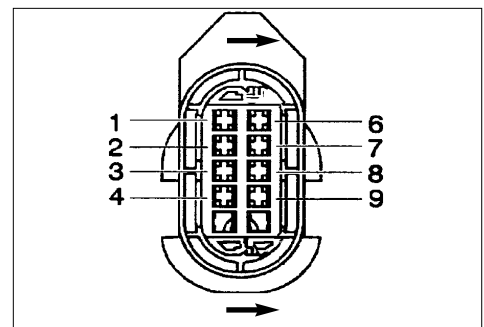

Figure 7
5.3 - Slide the red cams of the connector lock (Figure 7, Arrows), one notch in the direction of the arrows, using the removal tool 88069.